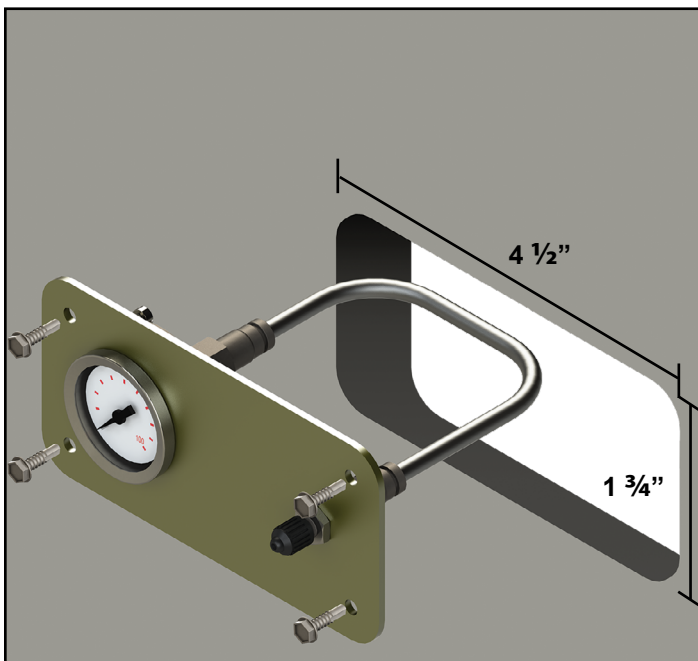

Fig.10
2. Determine the location of the panel and, with a suitable tool, cut a $4\frac{1}{2}" \times 1\frac{3}{4}"$ opening for the air gauge and fill valve (**Fig.10**).